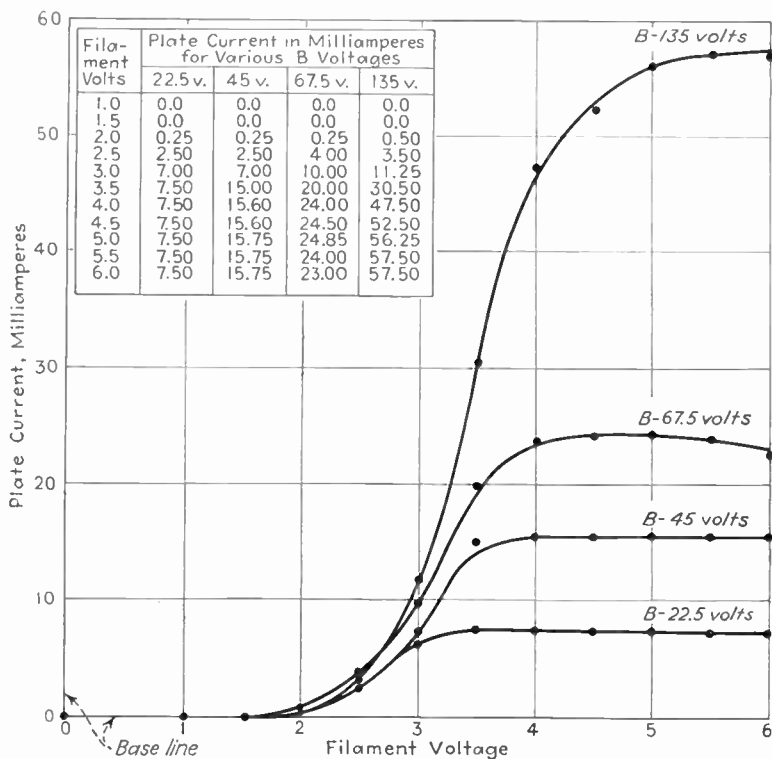

Fig. 50. Sample curves of filament emission for type 01A tube.
to the inch). Draw a heavy base line near the bottom of the sheet (see Fig. 50). Measure the changes in filament voltage on this base line. Mark off the line in equal divisions. Number each division below the line, one division for each volt.
The curves shown in Fig. 50 are samples prepared by the authors from a test run on an old type 01A tube. The reader should run a test on his own tubes, then plot curves for each tube.
are drawn, as shown in Fig. 50, the plate voltage should be lettered near each curve.
6. In Fig. 50 why did we draw the curve so as to miss several dots?